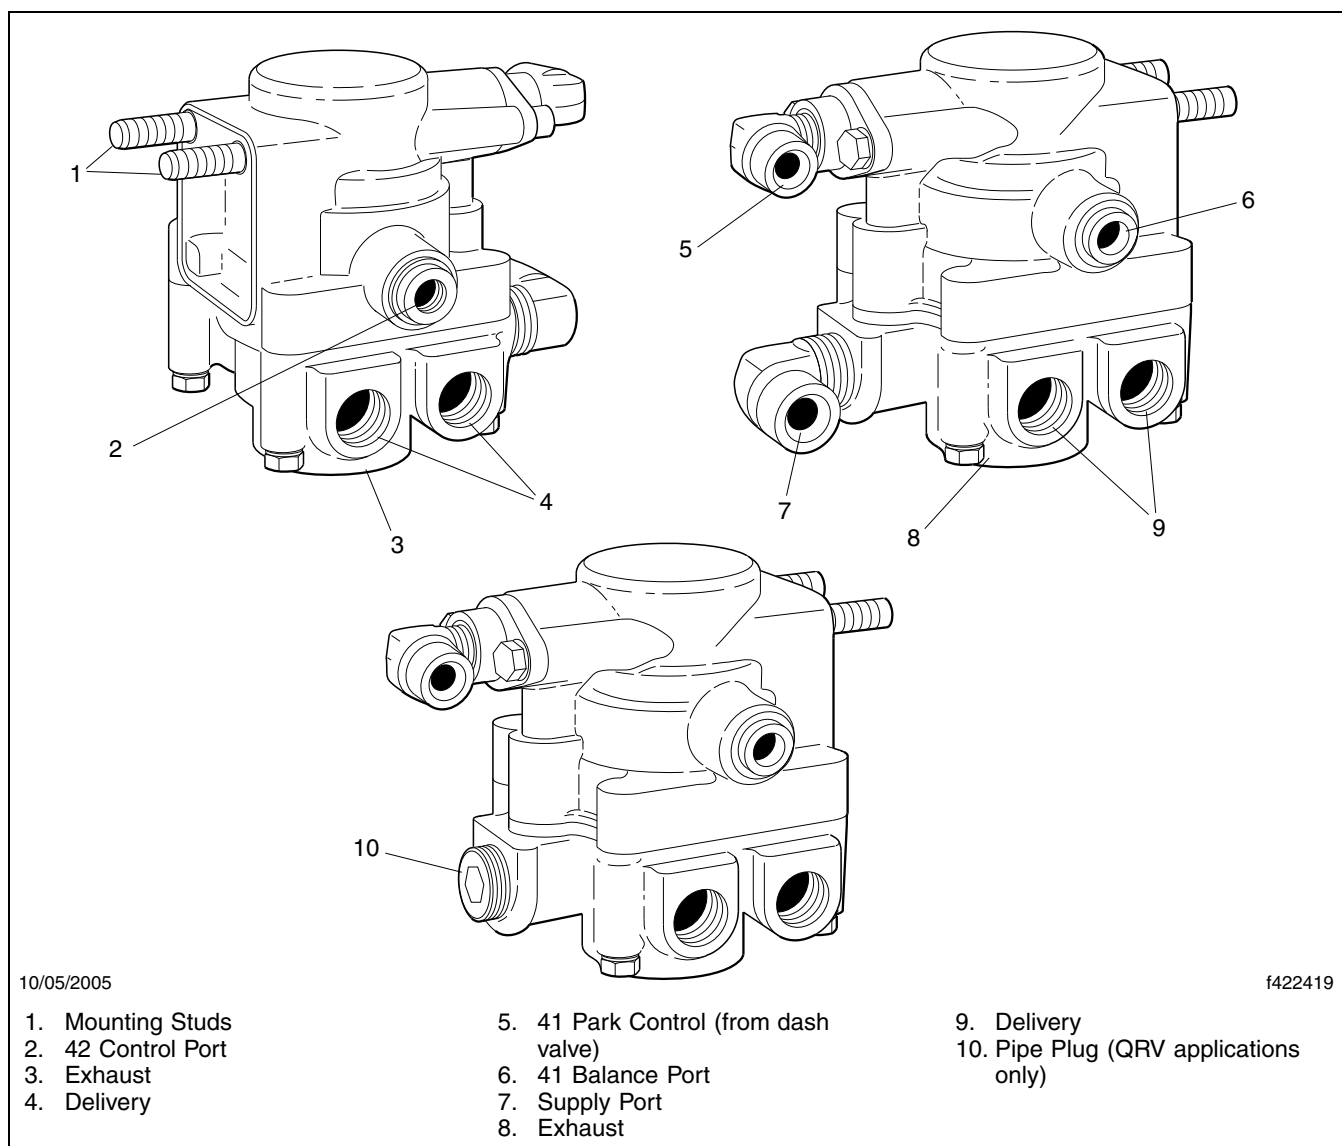

Fig. 6, SR-7 Spring Brake Modulating Valve (exterior views)
4. Remove one line from a delivery port of the SR-7 valve and install a test gauge that is known to be accurate. See **Fig. 6** for the port locations.